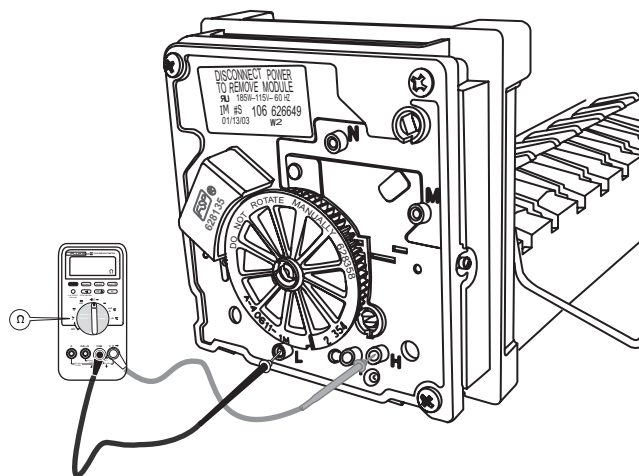

Figure 62. Checking mold heater resistance
3. Set multimeter to Ohm scale, then connect probes to test points L and H. Test probe tips must be 1/2 inch long to make full contact with internal terminals. See Figure 62.